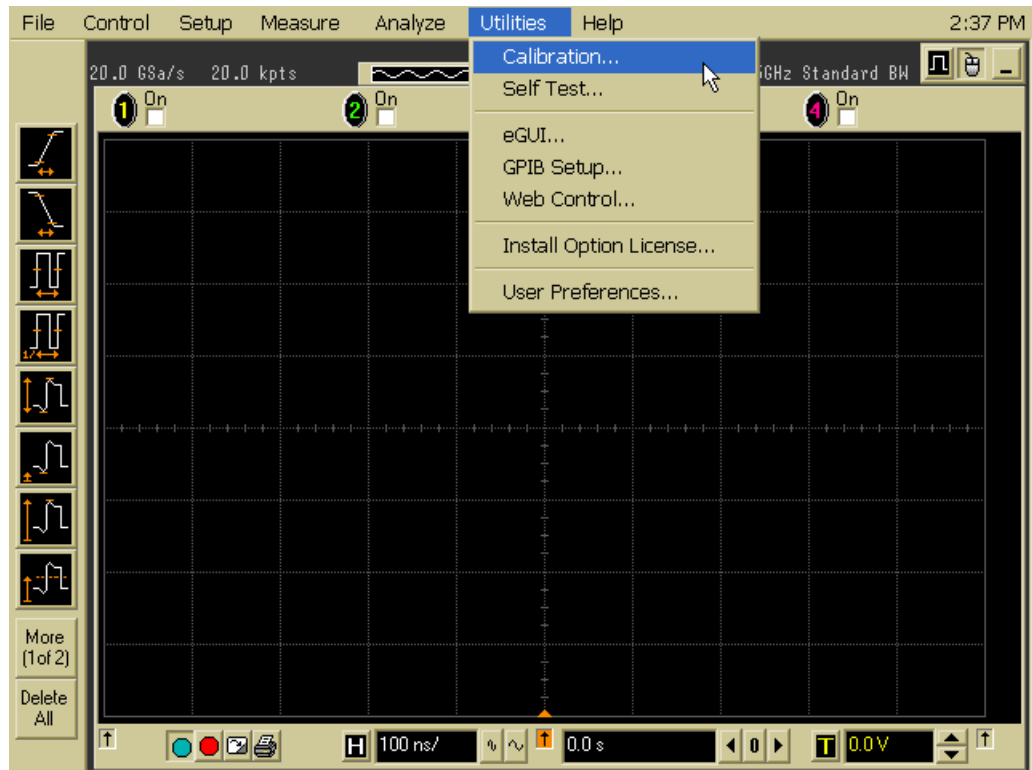

Figure 43 Accessing the Calibration Menu
- 3 Referring to Figure 43 below, perform the following steps: